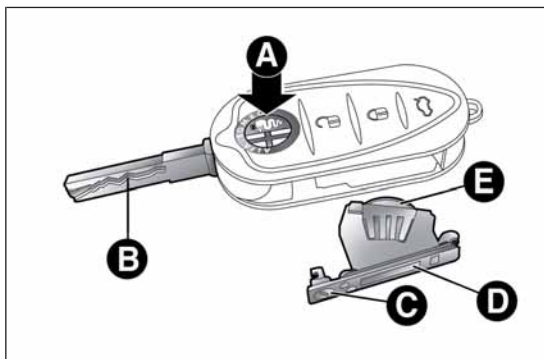

fig. 18
- ☐ press button A fig. 18 and move the metal insert B to opening position; turn screw C to  using a fine bit screwdriver;